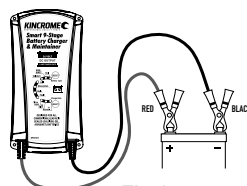

Fig 1
- If the battery is still **in the vehicle**, determine if the vehicle is positively or negatively earthed (Fig 1).